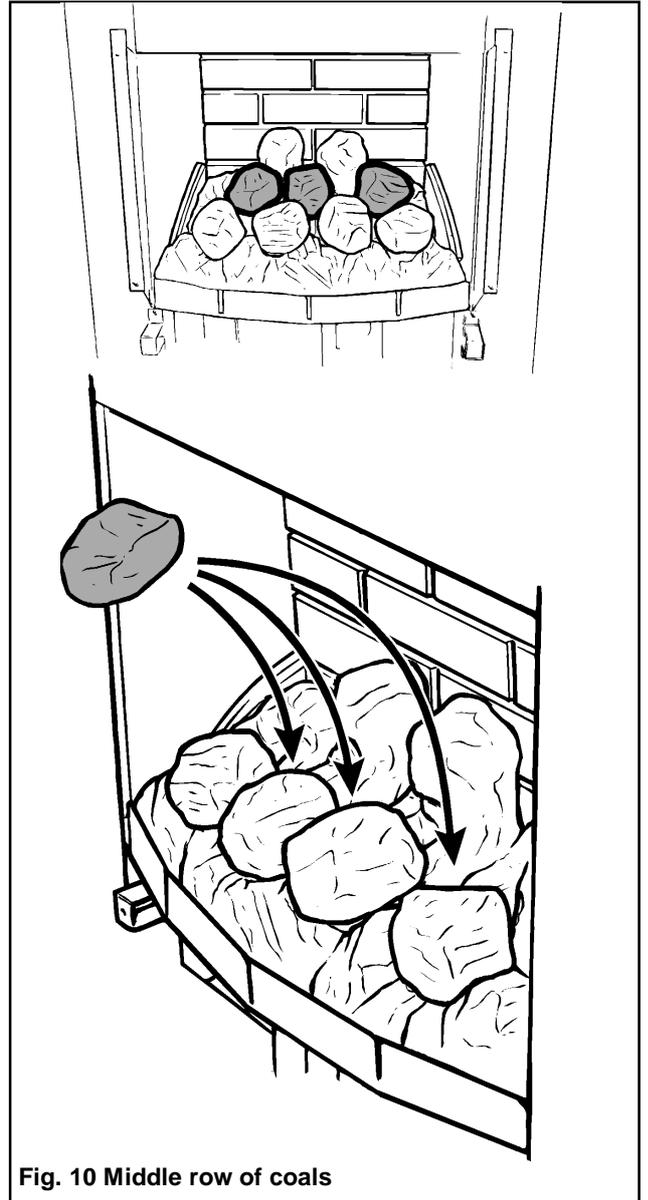

Fig. 10 Middle row of coals
- 5.3.** Place the three remaining coals behind and approximately midway between each of the coals in the front row (See figure 10).